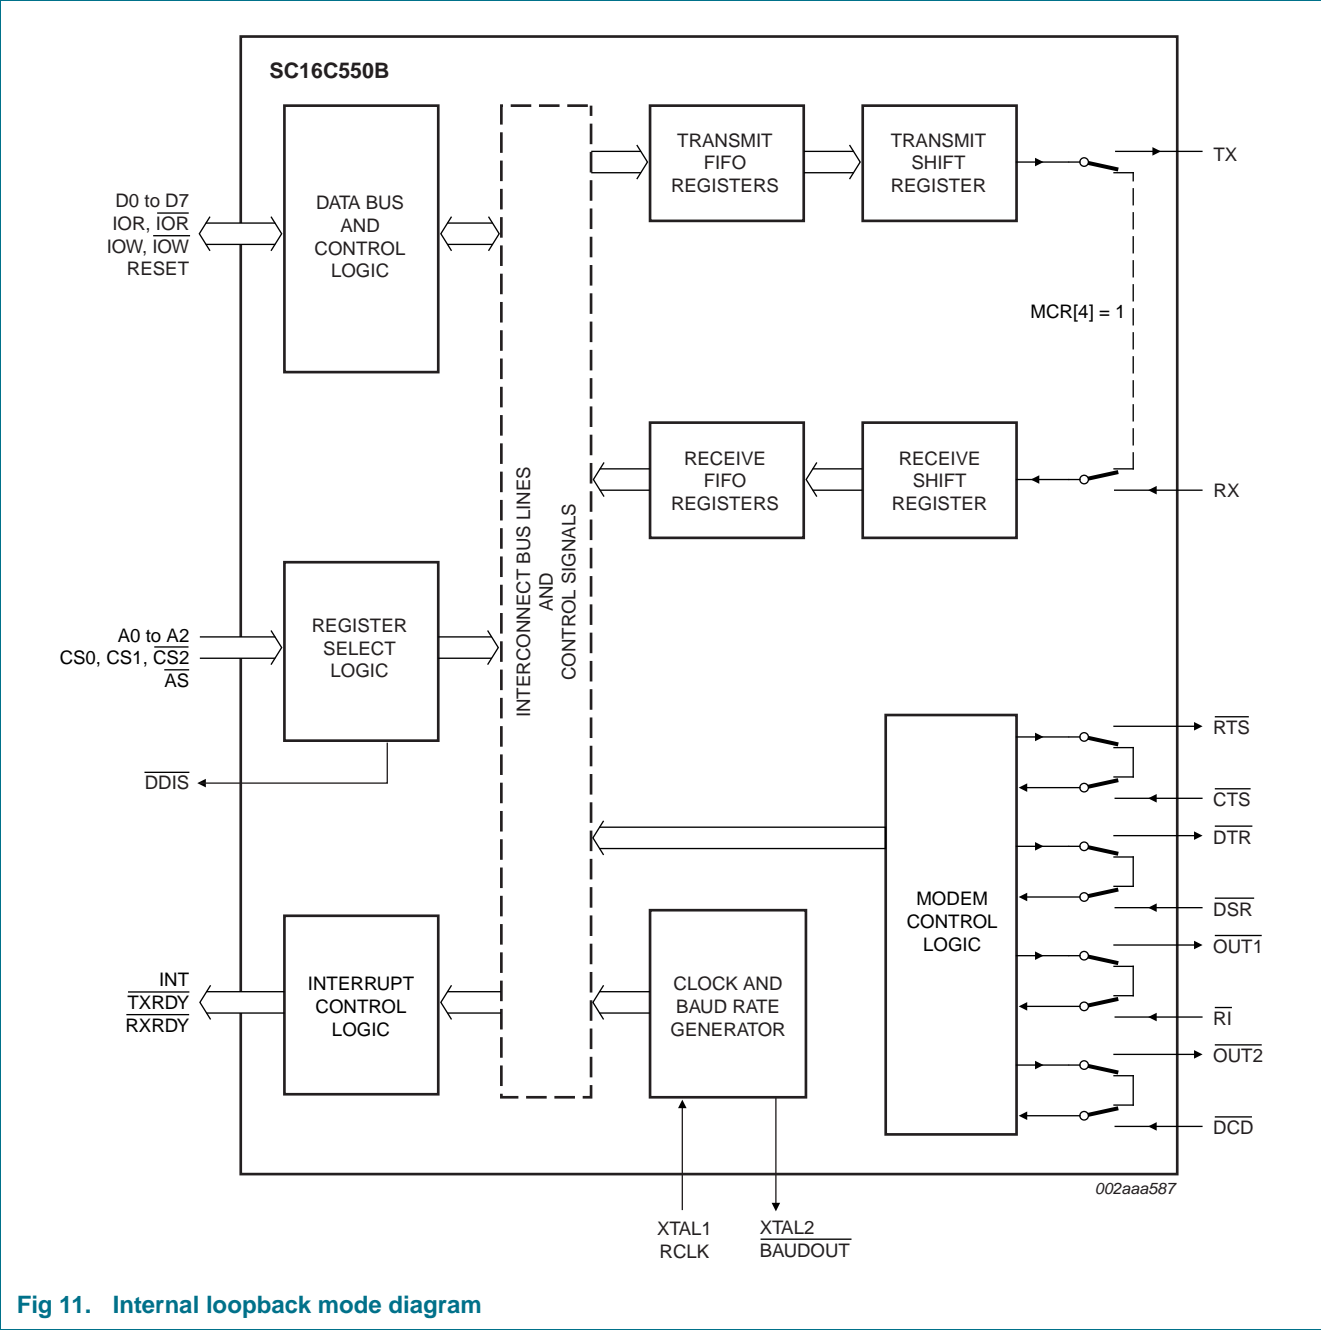

Fig 11. Internal loopback mode diagram
The internal loopback capability allows on-board diagnostics. In the loopback mode, the normal modem interface pins are disconnected and reconfigured for loopback internally. MCR[3:0] register bits are used for controlling loopback diagnostic testing. In the loopback mode, OUT1 (bit 2) and OUT2 (bit 3) in the MCR register control the modem  $\overline{\text{RI}}$  and  $\overline{\text{DCD}}$  inputs, respectively. MCR signals  $\overline{\text{DTR}}$  and  $\overline{\text{RTS}}$  (bits 0:1) are used to control the modem  $\overline{\text{CTS}}$  and  $\overline{\text{DSR}}$  inputs, respectively. The transmitter output (TX) and the receiver input (RX) are disconnected from their associated interface pins, and instead are connected together internally (see Figure 11). The inputs  $\overline{\text{CTS}}$ ,  $\overline{\text{DSR}}$ ,  $\overline{\text{DCD}}$ , and  $\overline{\text{RI}}$  are disconnected from their normal modem control input pins, and instead are connected internally to  $\overline{\text{DTR}}$ ,  $\overline{\text{RTS}}$ ,  $\overline{\text{OUT1}}$  and  $\overline{\text{OUT2}}$ . Loopback test data is entered into the transmit holding register via the user data bus interface, D0 to D7. The transmit UART serializes the data and passes the serial data to the receive UART via the internal loopback connection. The receive UART converts the serial data back into parallel data that is then made available at the user data interface D0 to D7. The user optionally compares the received data to the initial transmitted data for verifying error-free operation of the UART TX/RX circuits.